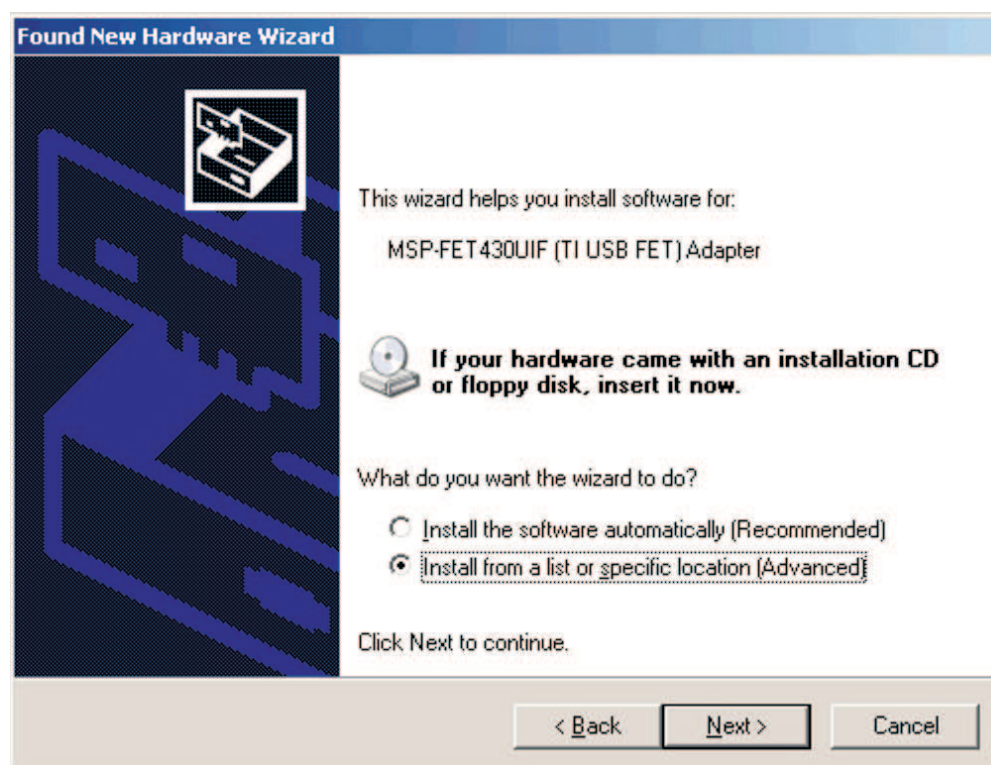

Figure F-2. WinXP Hardware Wizard
5. Select "Install from a list or specific location (Advanced)" (see Figure F-2).